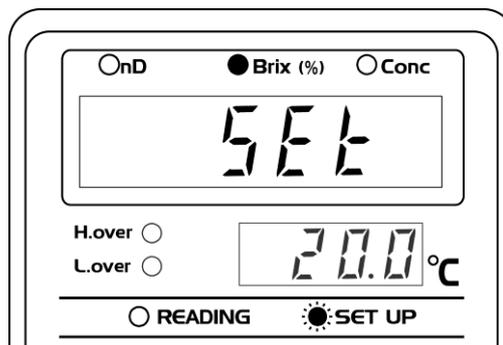

Fig. 11-1
③ Turn on the power as instructed in "9. Turning On the Power," on page 22.
④ Perform calibration in the appropriate measurement scale for your sample (i.e. nD, Brix, or Conc1 to 5). The example below is for calibration in Brix measurement mode.
⑤ Press the **START/STOP** key to pause the measurement.
⑥ Press the **SCALE** key three times. The SET UP light will then blink, and "SEt" will be displayed on the measurement value display (Fig. 11-1).
Press the **SCALE** key to return to the previous "SEt" screen (Fig. 11-1) (During the SET UP operation, the **SCALE** key serves as the cancel key).
The SET UP light will then blink, and "SET" will be displayed on the measurement value display (Fig. 11-1).